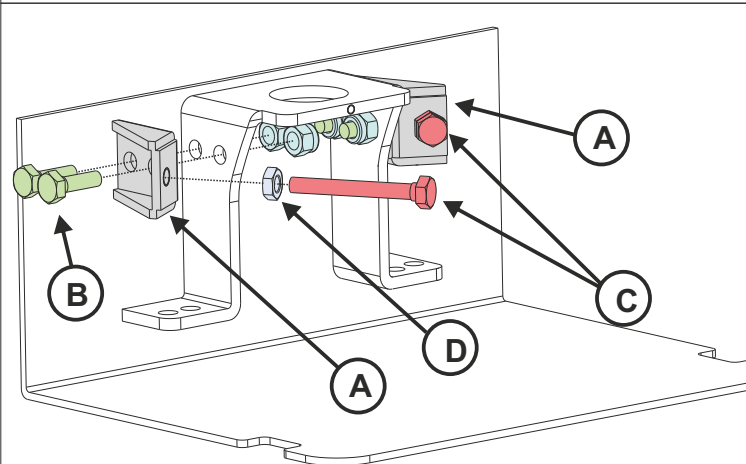

Fig. 24
6.3. Insert the two «stop screws» «C» into the special housings on the stop supports, using the bolts «D» as shown in (Fig. 24 e Fig. 25)